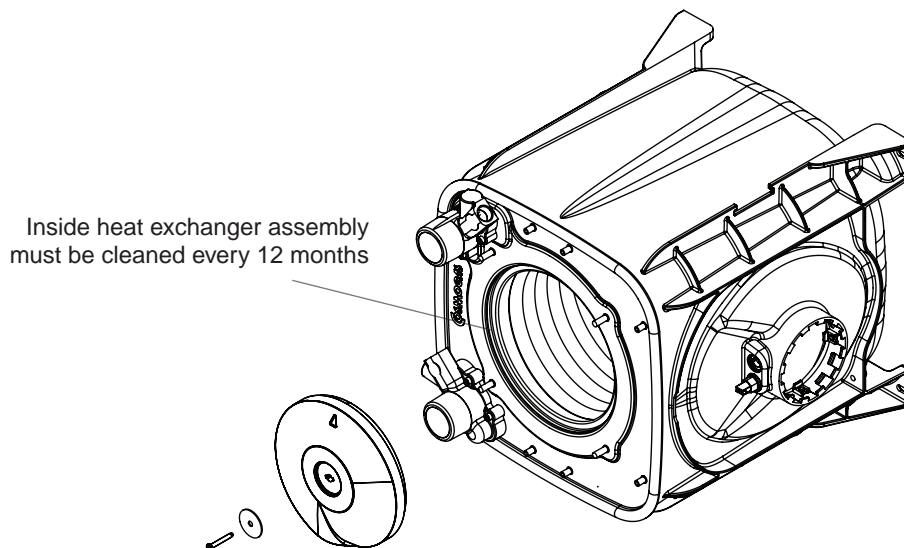

Figure 36.
1. The upper and lower TitanTough Heat Exchanger assembly must be inspected every 12 months and cleaned. It is recommended to call a qualified service technician to inspect the heat exchangers. See Figure 36.